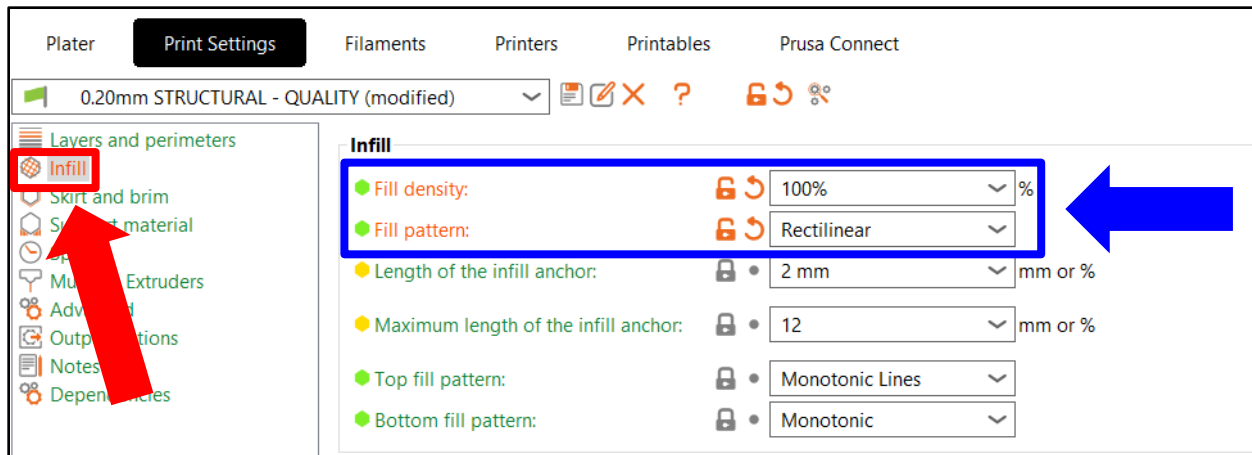

Figure 2. Adjusted Infill Settings.
- 3.) Go to the “Print Settings” tab in the top left corner of PrusaSlicer and double-click on the “Infill” subtab (see red arrow in Figure 2). Then change the fill density to 100% and the fill pattern to Rectilinear (see blue arrow in Figure 2).